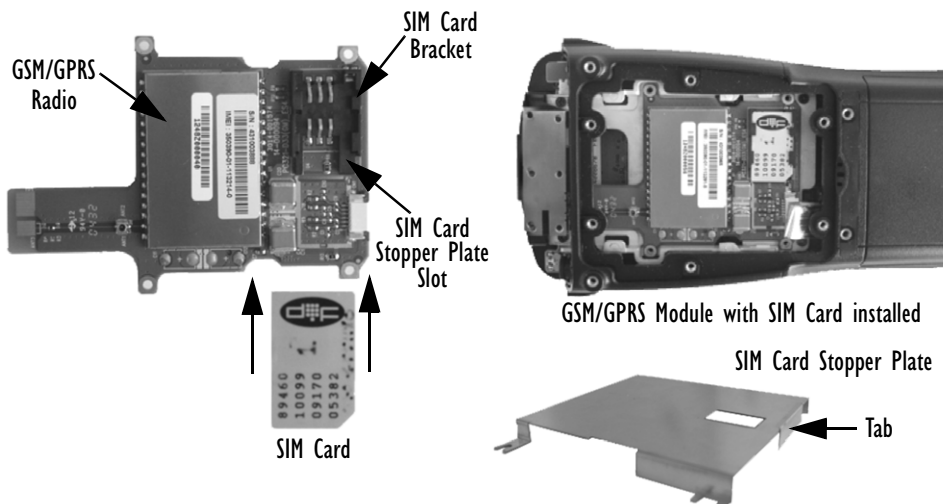

Figure 8.6 Inserting The SIM Into The GSM/GPRS Module
- Slide the SIM card into the GSM/GPRS module as shown in Figure 8.6, with the card oriented printed side up and its notch on the right side.
- Settle the SIM Card stopper plate into place with its metal tab inserted into the SIM Card stopper plate slot on the GSM/GPRS module (for tab and slot locations see Figure 8.6). Ensure that the scanner flex cable lies on top of the plate.